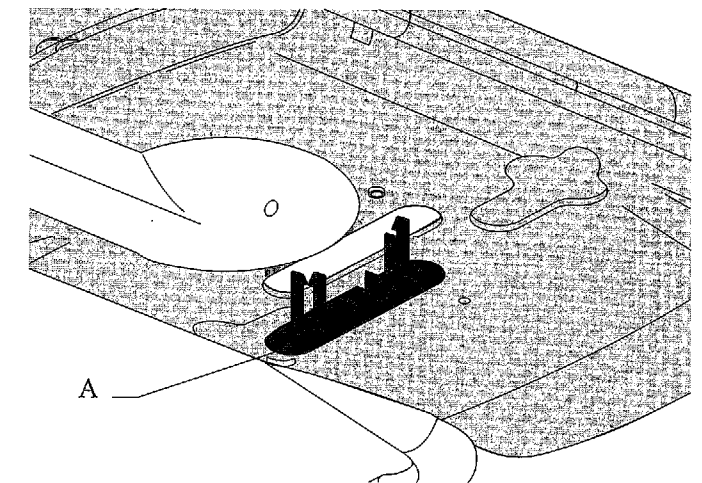

Figure 22. Tubing guide. (A) tubing guide
4. Replace the tubing guide on the underside of the delivery system (see Figure 22).